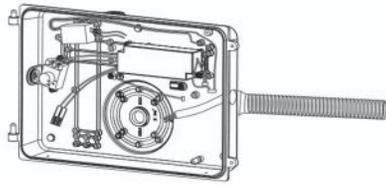

Fig. 2-3A
3. Make wiring connection from side and go through isolation treatment;Tighten the pipe on the luminaire.(Fig.2-3A&B)